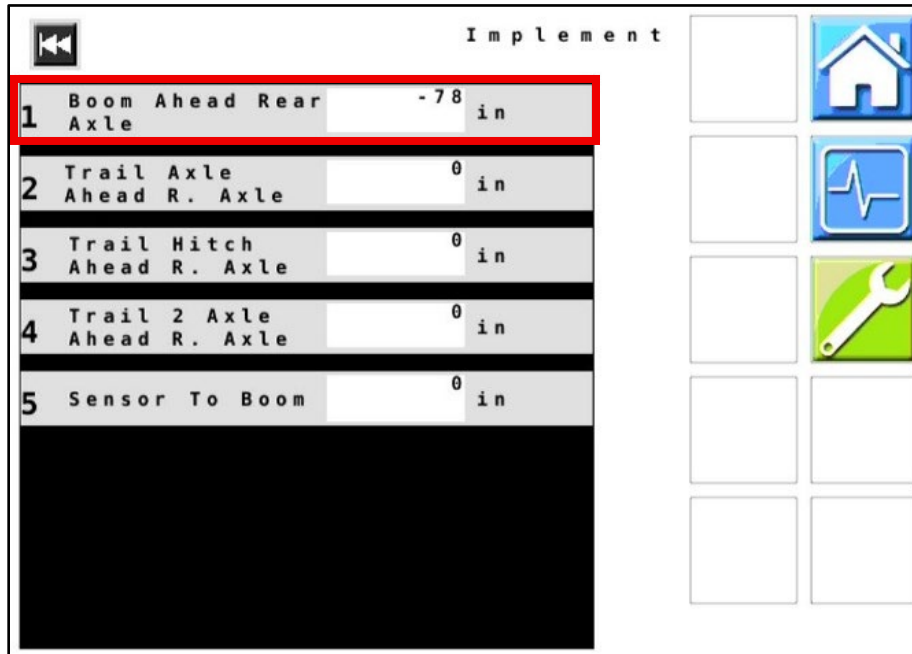

Figure 20 — Implement
38. **Figure 20:** Verify the measurement above for **Boom Ahead Rear Axle**. This measurement is the distance between the rear axle of the sprayer and application point.